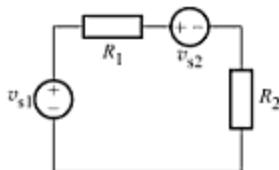

Fig. A-57
- A-8. In the circuit of Fig. A-57, if $v_{S1} = 120 \text{ V}$, $v_{S2} = 30 \text{ V}$, $R_1 = 30 \Omega$, and $R_2 = 30 \Omega$, compute the power absorbed by each component. [Ans. $P_{120V} = -240 \text{ W}$, $P_{30V} = 60 \text{ W}$, $P_{30\Omega} = 120 \text{ W}$, $P_{15\Omega} = 60 \text{ W}$]